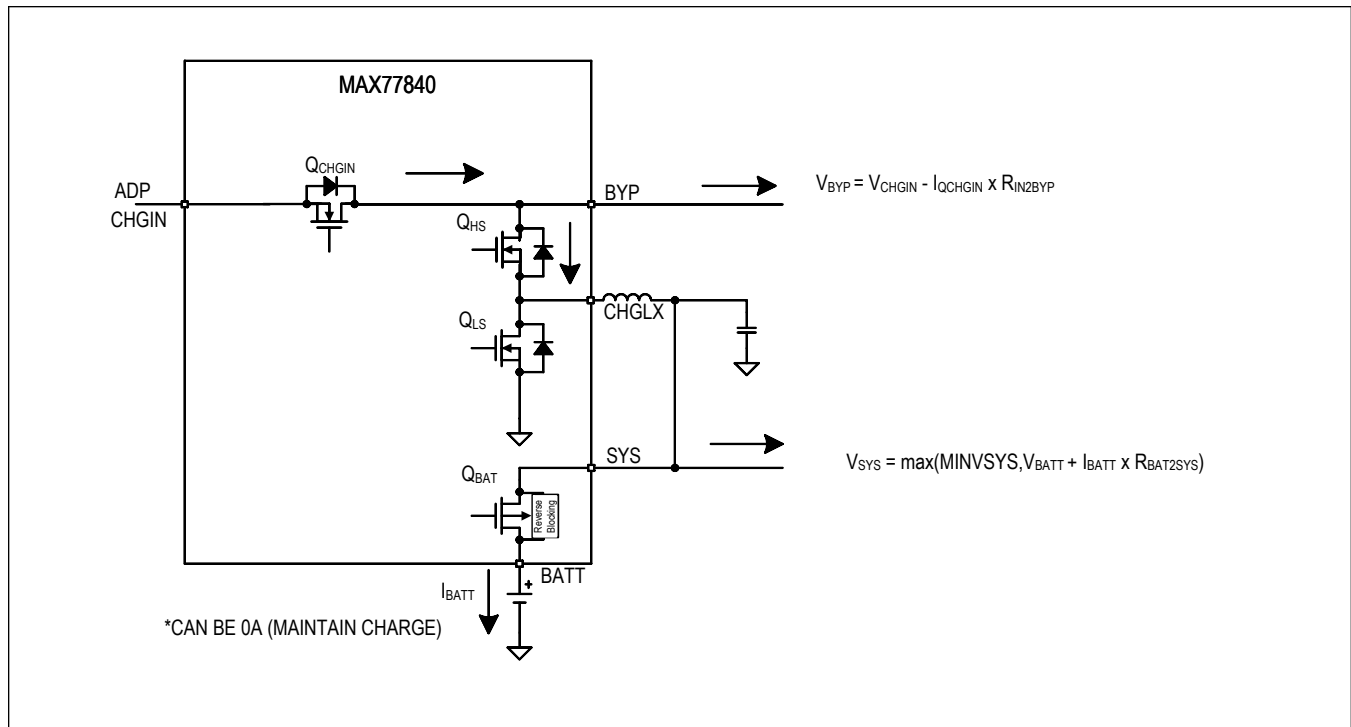

Figure 8. Charge-Buck
- 6. CHARGE-BUCK, MODE = 0x0D: The adapter is detected within the input voltage operating range ( $Q_{CHGIN} = on$ ). Battery is connected in charge mode ( $Q_{BAT} = on$ ) and charger is operating in buck mode, see Figure 8.